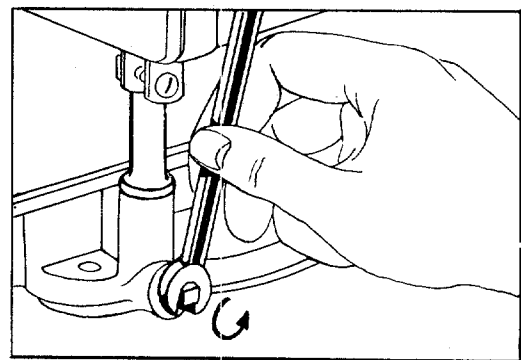

FIGURE 18. OIL DRAIN
After the first five hours of operating a new engine, drain the oil (See figure 18.) from the crankcase while engine is still hot and refill crankcase with new oil; thereafter change the oil every 25 hours of operation. This procedure ensures for minimum wear of engine parts and provides for virtually trouble-free operation. To change the oil, proceed as follows:
- Step 1. With the machine on level ground, place a suitable metal container under the oil drain plug, then remove the drain plug. See figure 18.